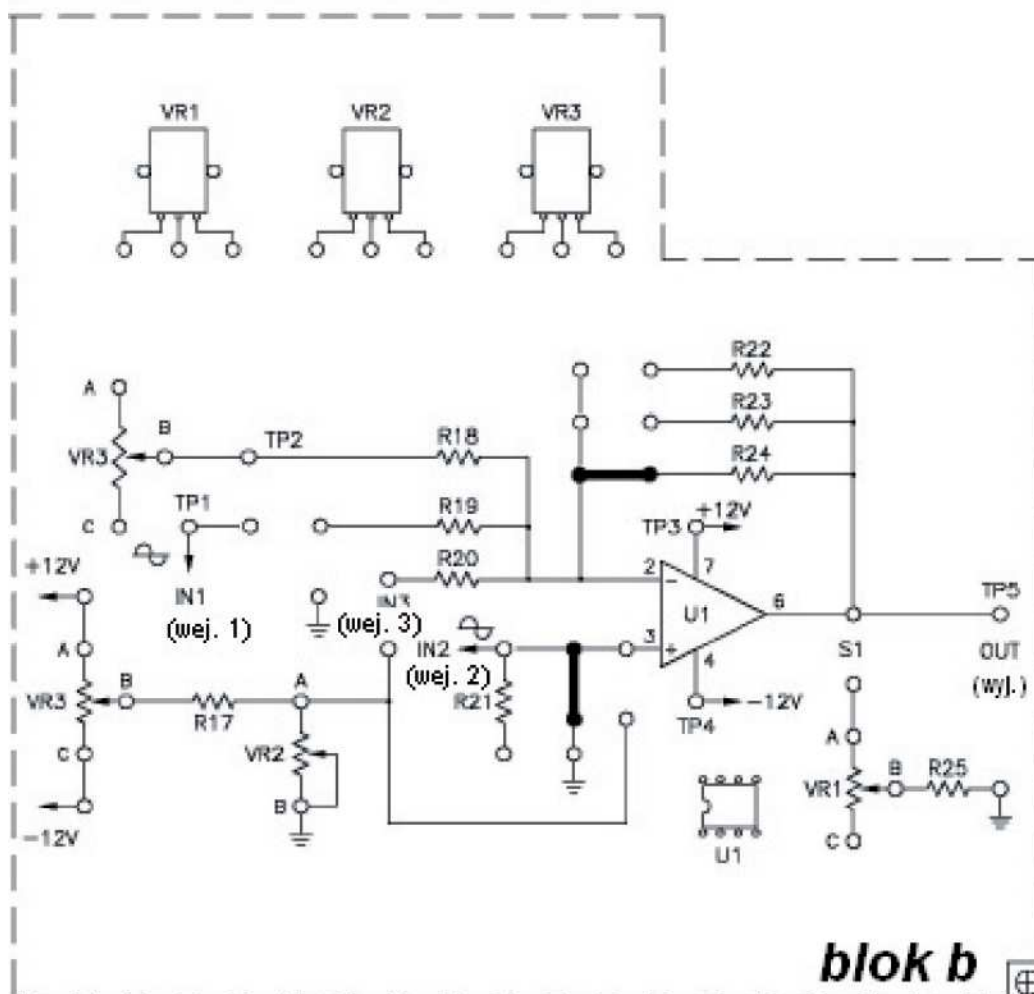

Fig. 1: Electrical assembly schematic (KL-25006 part b)
1. Make the connections according to the assembly schematic fig. 1. The circuit should be powered with + 12 V_{DC} and – 12 V_{DC}.